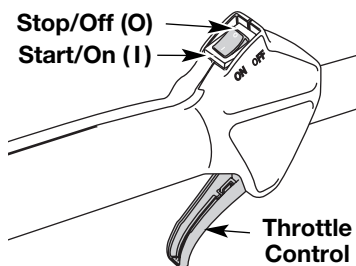

Fig. 4
NOTE: There is no need to turn the unit on. The On/Off Stop Control (Fig. 4) is in the ON (I) position at all times.
2. Press and hold On/Off Stop Control in the OFF (O) position until engine comes to a complete stop (Fig. 4)